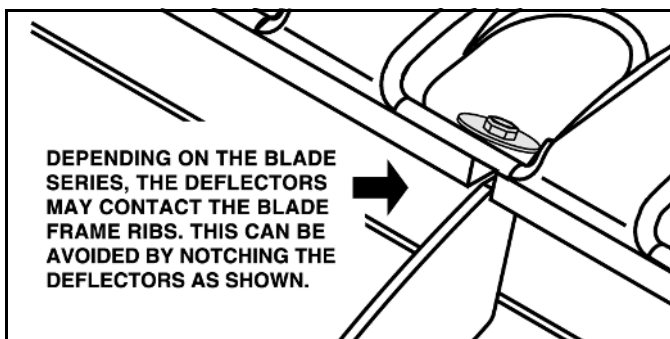

Figure 1-2
4. Depending on the blade series, it may be desirable to notch each deflector section where they contact the blade reinforcement ribs. This is an optional installation step that will not hinder the snow deflector performance. (See Figure 1-2).